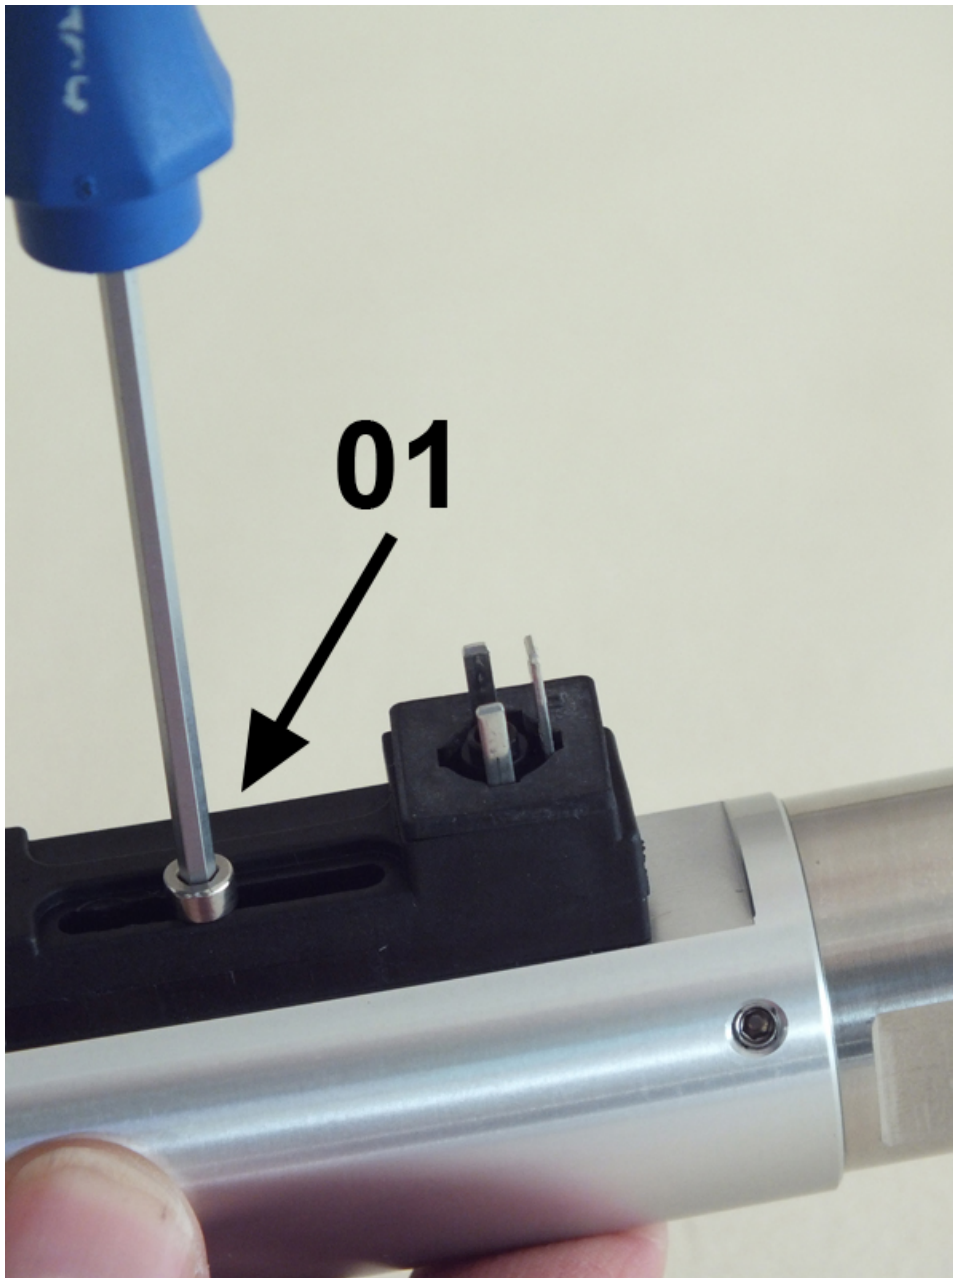

Fig. 55: Loosen set screw
- 3.** ➤ Using a hex screwdriver (*Fig. 55/01*) remove the set screw of the switch contact.
- 7.** ➤ Insert set screw (*Fig. 55/01*) and tighten it slightly so that the switch contact can still move easily.
- 9.** ➤ Retighten the set screw (*Fig. 55/1*) observing the proper tightening torque (➔ *Chapter 11.1 "Tightening torque" on page 85*)